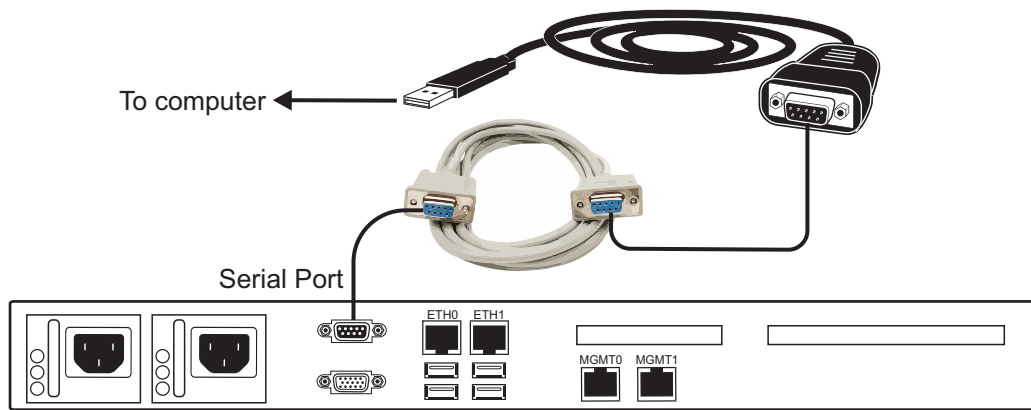

Figure 9.3 USB to DB9 Adapter
1. Connect the USB connector of the cable to a USB port on your computer and the DB9 male connector of the cable to one end of a null modem DB9 female-female cable. Connect the other end of the null modem DB9 female-female cable to the DB9 serial port of the 7800-CTRL. See figure 9.3 on page 61.